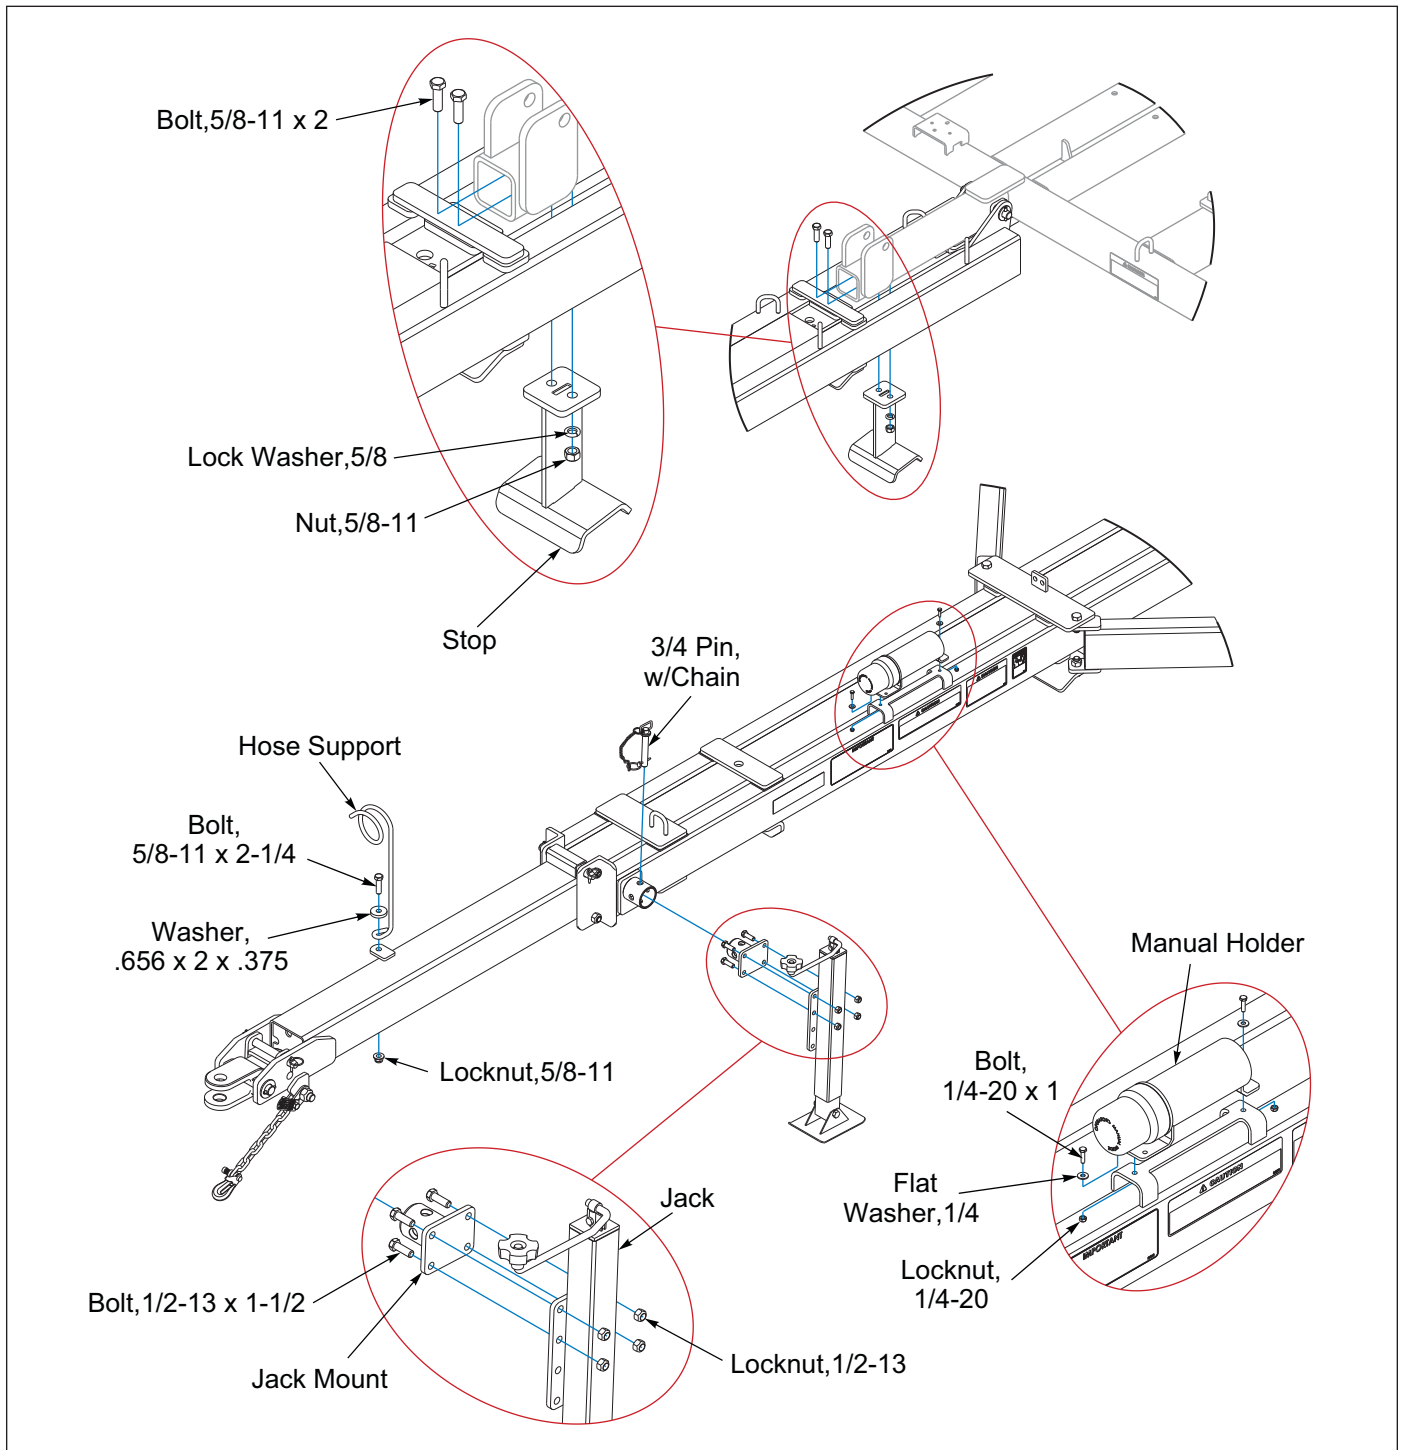

Figure 2-8: Drawbar Components
1. Attach the Manual Canister on the top of the Drawbar Bracket with 1/4-20 x 1 Bolts, Flat Washers, and Locknuts. **See Figure 2-8.**